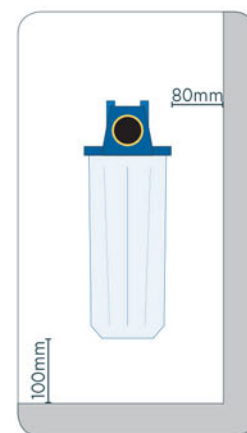

Fig.1
• INSTALLEZ LES CONTENEURS DANS UNE ZONE SUFFISAMMENT GRANDE POUR EFFECTUER L'ENTRETIEN ET LE REMPLACEMENT DU FILTRE. (FIG. 1)